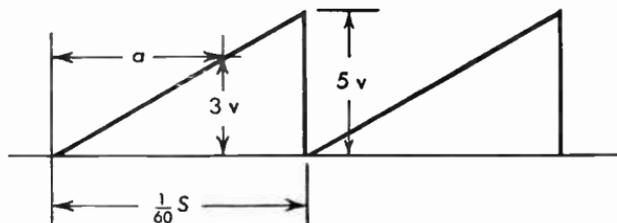

Fig. 13.02 Saw-tooth wave as applied between grid and cathode of the thyatron tube in problem 13.02.
13.02 The thyratron tube type 502-A is operated at a plate voltage of 350 volts; the control grid direct voltage at start of discharge is -3 volts. A saw-tooth wave of the shape shown in Figure 13.02 is applied between grid and cathode with the terminal voltage of the
The period a in Figure 13.02 is the time during which the grid is less negative than -3 volts. Therefore a is the active period of the tube. We have the proportion of similar triangles